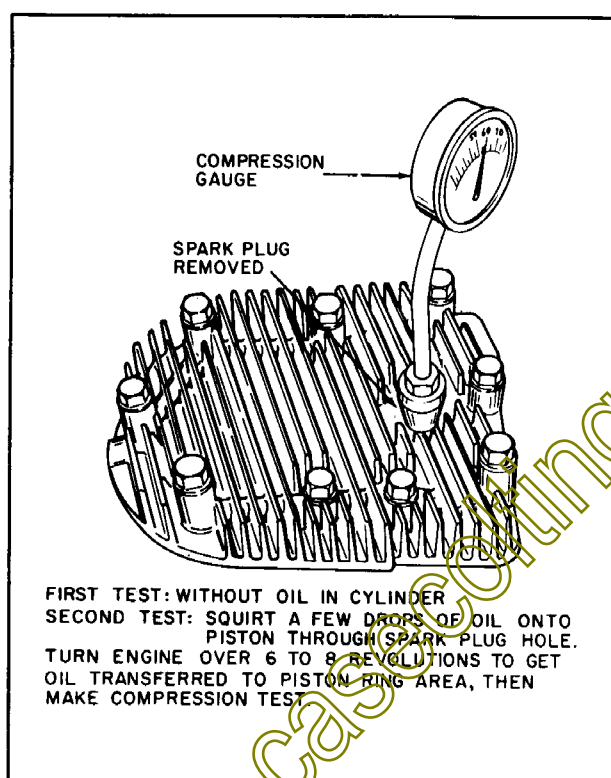

Figure 7-5
- a. Insert a compression gauge into spark plug port. Crank engine and check compression reading on gauge, which should be no less than 60 psi (new engines should be about 80 psi) for an engine with a compression release cam, the reading could be 45 psi or less. Engines with lower reading indicate the need for piston, ring and bore service, if the engine must run near rated horsepower. See Figure 7-5.